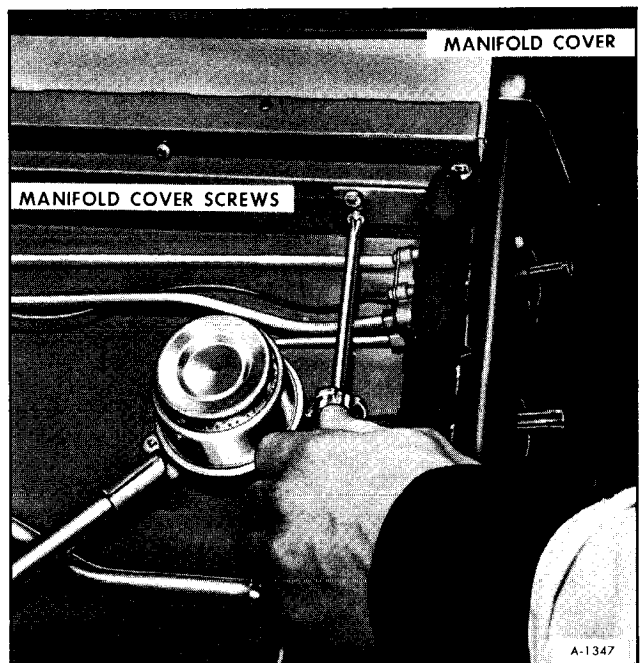

Figure 7—Removing Manifold Cover Screws (Upper)
1. Turn thermostat to "OFF" position, as shown in Figure 7.
4. Remove manifold cover by disconnecting light switch, (if so equipped) and removing six screws (two at each side and two at bottom) (See figures 7 and 8).
4. Remove manifold cover by disconnecting the light switch (if so equipped), and removing the six screws holding the cover (two at each side and two at the bottom of the cover) (See figures 7 and 8).